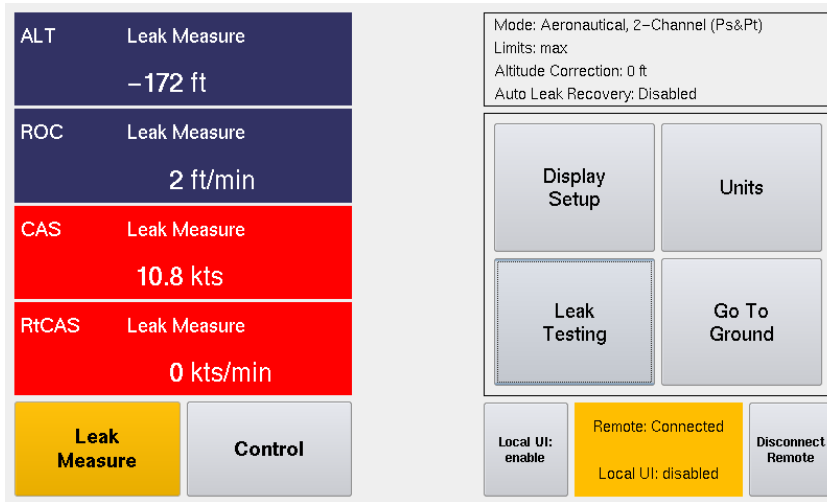

Figure E. 20 Remote Terminal Screen
- j) The remote terminal window, which is identical to the test set display (Fig. E. 20), opens. The DPS1000/1811NG is now ready for testing through the tablet app.